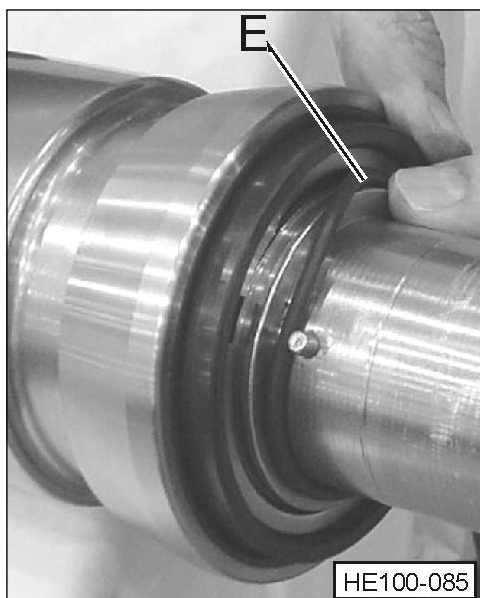

Figure 66 - Install Keeper O-ring
The seal body is held in place on the mutator shaft by two seal drive pins. Each one should be $\frac{3}{32}$ " (+/-0.015) above the stub shaft surface. It is extremely important that these pins are not rounded on the edges and that this dimension is maintained. If the pins are higher than $\frac{3}{32}$ ", the seal will jam; if the pins are too low, the body will rotate. See Figure 66 on page 64.
5. Install the "keeper" O-ring (See Figure 66, Item E) on the shaft to keep the rotating parts assembled.